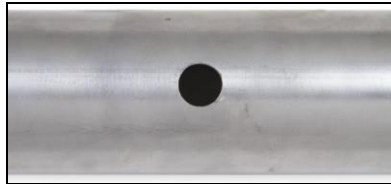

Figure 3
4. Mark the center of the casting on the exhaust tube and drill a 3/4" hole. Deburr the hole after drilling (**Figure 3**).